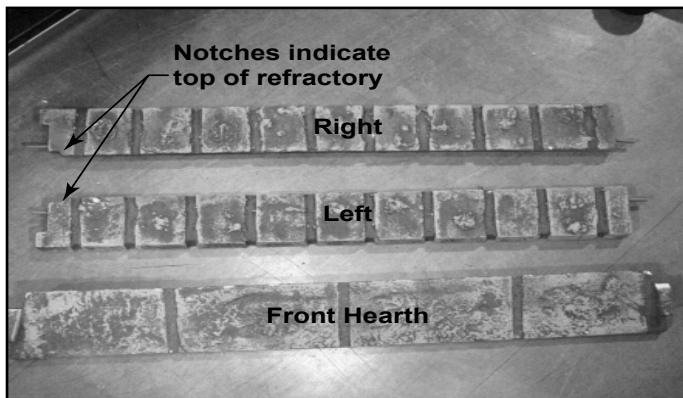

Figure 12.17 Refractory Pieces
Open Refractory Package (Figure 12.17)
- Locate right side refractory panel. See Figure 12.17.